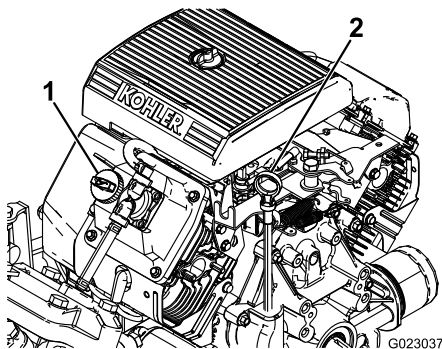

Figure 27
2. Remove the dipstick and wipe it with a clean rag (Figure 27). Insert the dipstick into the tube and make sure it is seated fully. Remove the dipstick and check the oil level.
3. If the oil level is low, remove the filler cap from the valve cover (Figure 27) and pour oil into the opening until the oil level is up to the Full mark on the dipstick. Add the oil slowly and check the level often during this process. Do not overfill.
8. Slowly pour approximately 80% of the specified amount of oil into the oil filler tube (Figure 27).